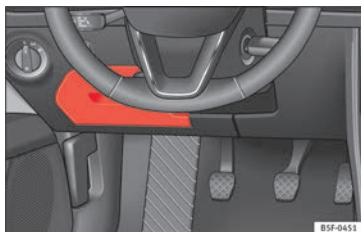

Fig. 100 On the driver-side dash panel: fuse box cover
- *Opening*: fold the cover down » **Fig. 100**.